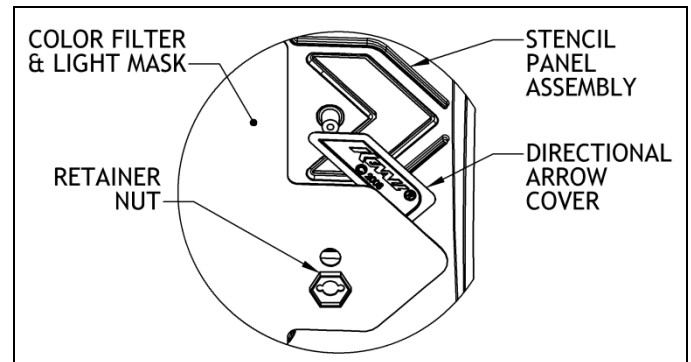

Figure 7
**Directional Indicators** (Fig. 7): Configure DIRECTIONAL ARROWS as needed. To remove DIRECTIONAL ARROW COVER, use 7/16" nut driver (not supplied) to loosen RETAINER NUT approx. one complete turn. Push in cover from outside. Tighten RETAINER NUT to secure COLOR FILTER PANEL and aluminum LIGHT MASK (if provided). Carefully align INNER COVER over TEST PUSHBUTTON and STATUS/TEST INDICATOR. Snap INNER COVER to ELECTRICAL CHASSIS assembly.